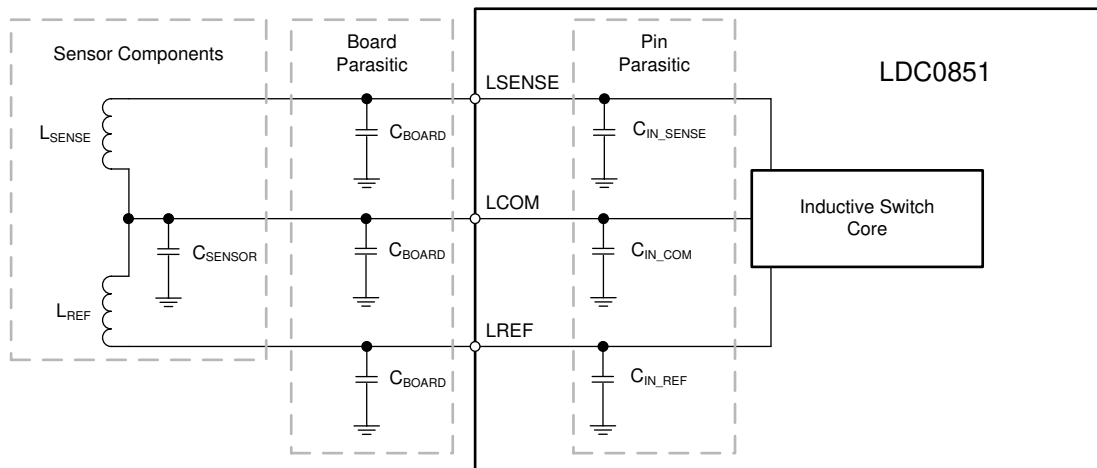

图 7-1. Sensor Components, Board Parasitics, and Package Parasitics Diagram
- C_{BOARD} is the parasitic capacitance of the board, see 图 7-1
- C_{TOTAL} is sum of external sensor, board parasitic, and pin parasitic capacitances connected to LCOM, refer to 图 7-1